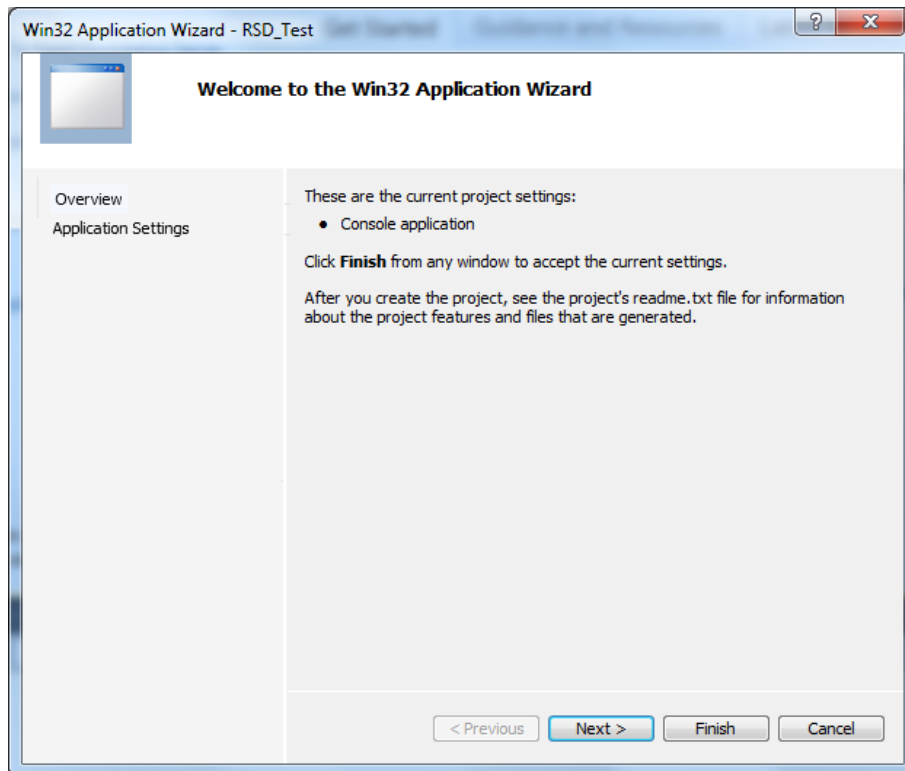

Figure 20 The new Project Win32 Application Wizard – Welcome window
5. The Project Wizard will start. Click “Next” on the first screen (Figure 20).